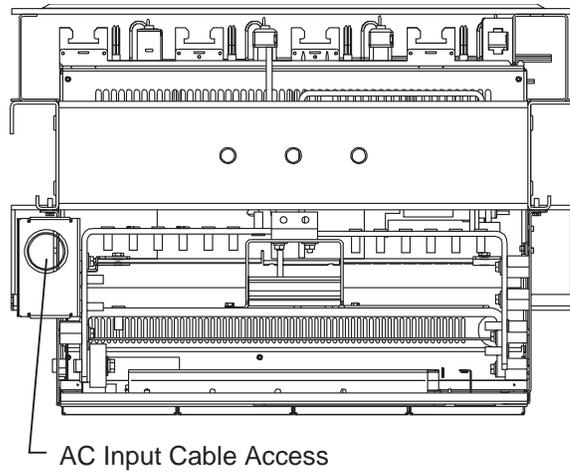

Figure 5-3: Top View of the GPS 2408 Plant
4. At the plant, route the ac cables through the access hole in the top-left side or side of the plant. See Figures 5-3 and 5-4.